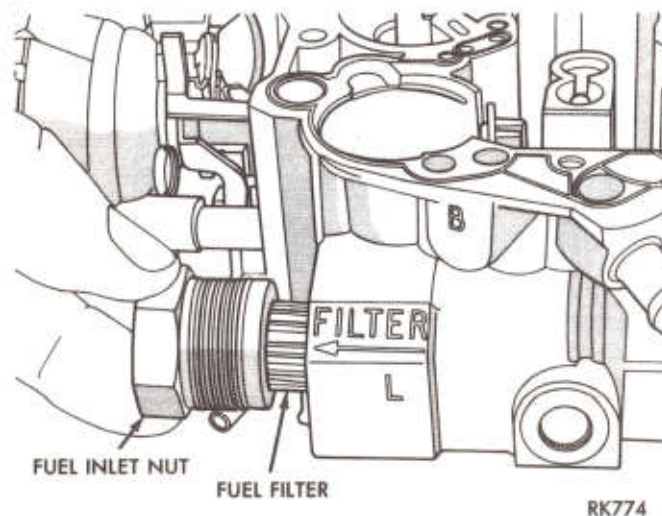

Fig. 23—Removing Fuel Inlet Nut
(11) Remove secondary air baffle if replacement is required.
(12) Remove pump well fill slot only if necessary.
(13) Remove vacuum diaphragm hose, remove mounting screws, and rotate diaphragm assembly to remove the vacuum kick link from the slot in the plunger head.
(14) Remove fuel inlet nut, gasket, filter assembly and spring (Fig. 23). Discard filter assembly and gasket.
bly, new gasket and inlet nut. Tighten nut to 24 N·m (18 foot-pounds) (Fig. 23).